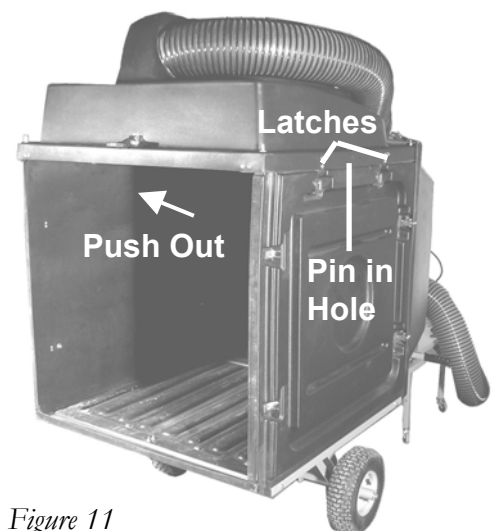

Figure 11
4. Lift the hose side of the Centrifugal Separator and place it on top of the right side panel; align the holes in the top edges of the side panels with the protruding pins from the Centrifugal Separator and secure in place with the flexible latches (*Figure 11*).